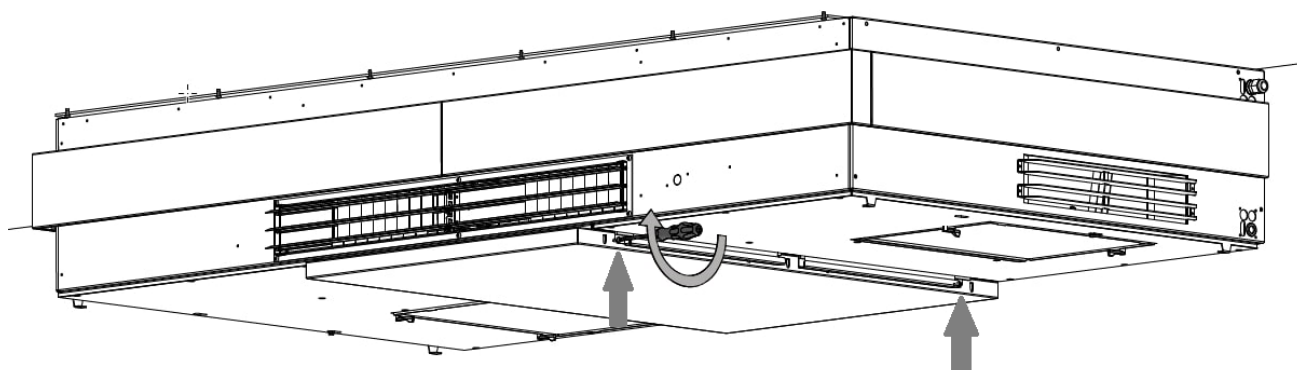
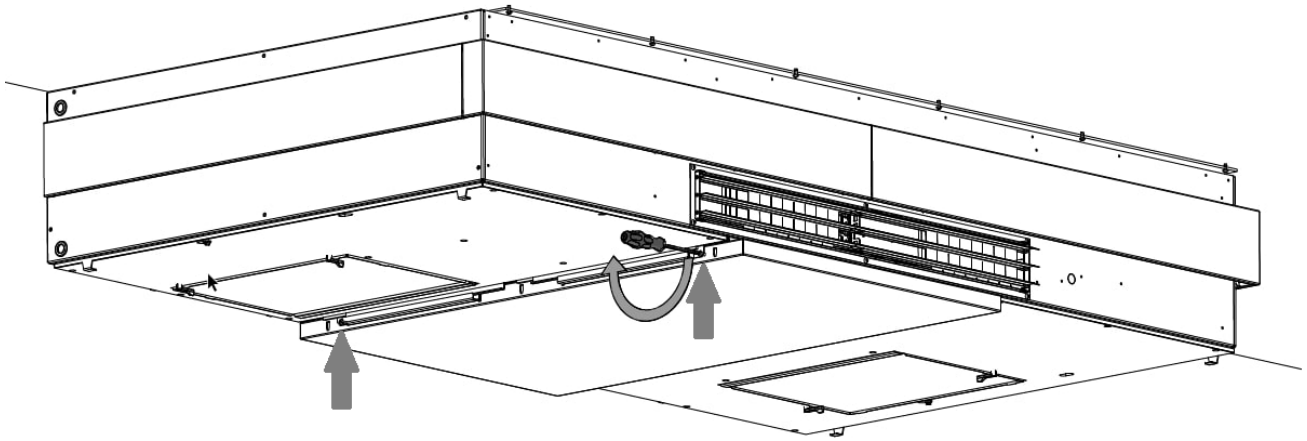

Figure 52: Mount the service cover on the right-hand side
Figure 53: Mount the middle service cover on the left-hand side
2. Mount the service cover using two short bolts on each side, see Figure 52 and Figure 53.